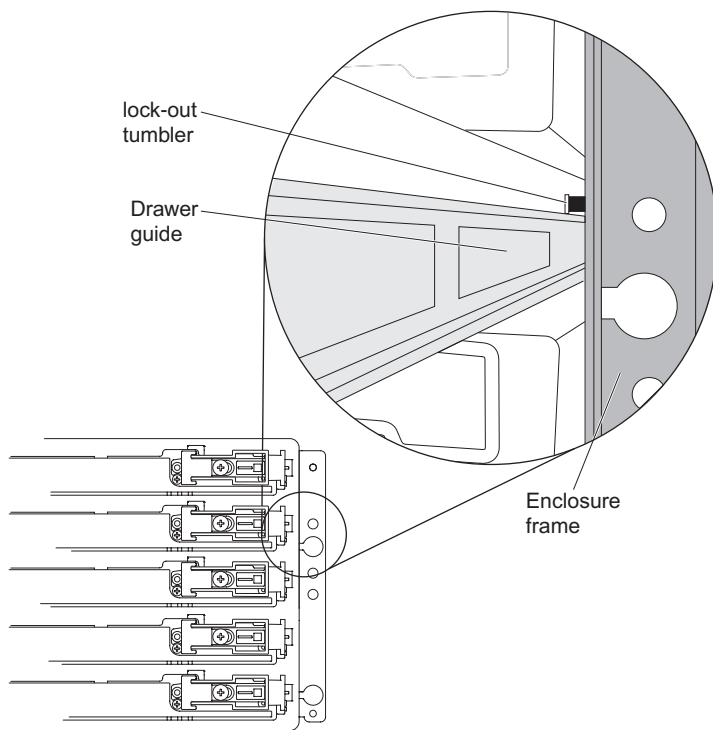

Figure 93. Lock-out tumbler located above the drawer guide
- a. At the front of the storage expansion enclosure, install the new drive drawer into the slot, making sure the lock-out tumbler is located on the top of the drawer guide. The lock-out tumbler is a small alignment piece that is attached to the frame. Figure 93 on page 130 shows the location of the lock-out tumbler as shown from the front of the enclosure.